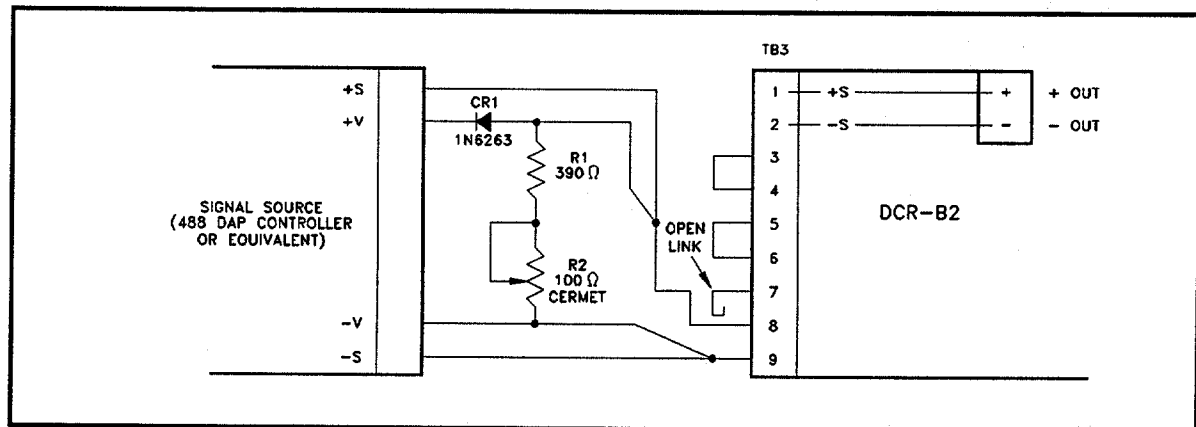

Figure 3-7 DCR-B2 Interconnections (Current Programming, 0-400 mV Range)
Figure 3-7 illustrates unit interconnection for the DCR-B2 power supply series.
7. Disconnect the signal source only from terminals 8 and 9 of the DCR-B2. Insure that R1 and R2 in Figure 3-7 are still connected to TB3-8 and TB3-9. Short DCR-B2 output.
9. Set external pot (R2 in Figure 3-7) to obtain 115% of rated DCR-B2 output current.